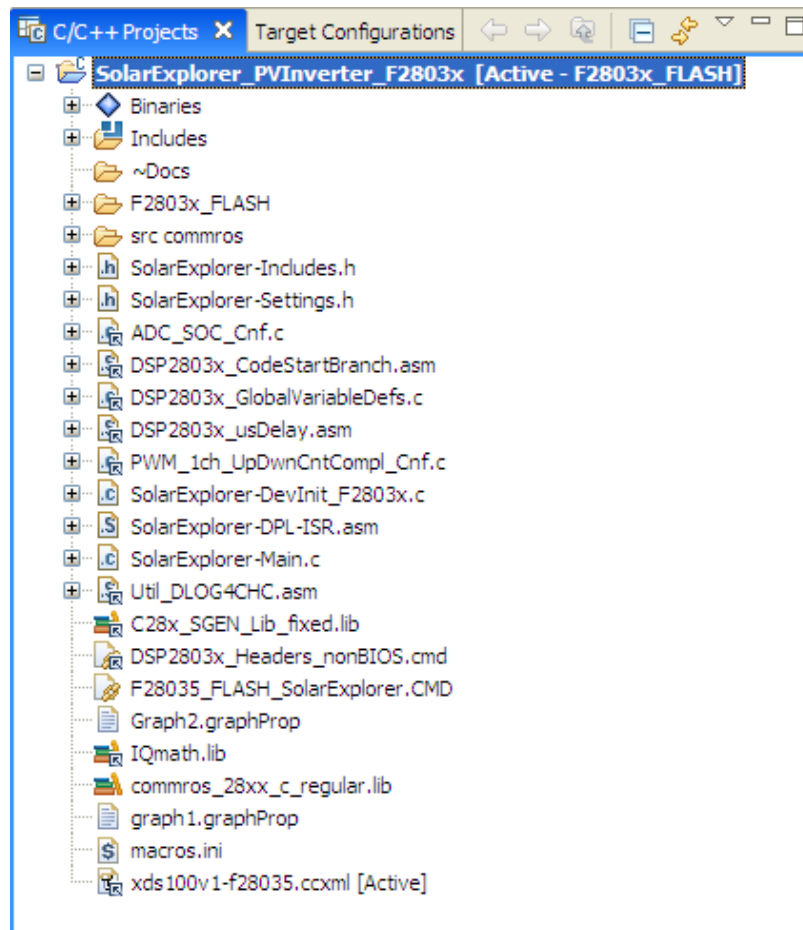

Fig 18 PV Inverter project in C/C++ tab
11. Fig 18 shows the project in the CCSv4 C/C++ Project tab, it shows all the key files used in the project.
2. In the project window on the left, click the plus sign (+) to the left of Project, Fig 18. Open and inspect *SolarExplorer-DevInit_F2803x.c* by double clicking on the filename in the project window. Note that system clock, peripheral clock prescale, and peripheral clock enables have been setup. Next, notice how the shared GPIO pins have been configured.